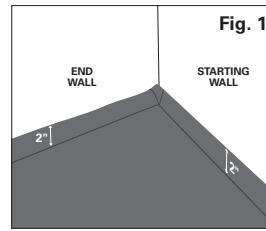

Fig. 1
- Start in the corner of the room by rolling out the underlayment with the logo side facing down and the green side facing up. Run the underlayment 2 inches up both the starting end wall and the side wall (see Fig. 1). This 2 inch perimeter running up the wall provides a moisture-proof enclosure for the flooring.